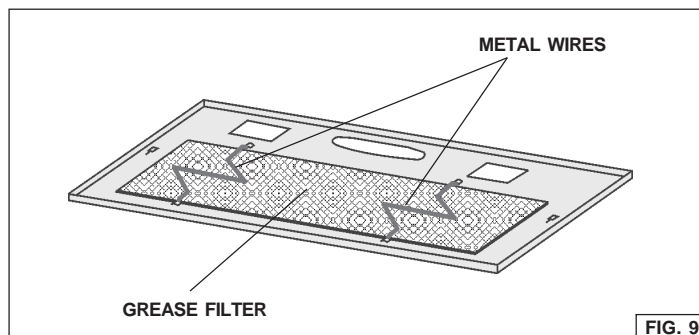

FIG. 9
1. Remove the metal wires (Fig. 9) and discard them.
To remove the grease filter: remove the grid by moving the 2 slide fasteners "A" (Fig. 2); remove the metal wires and then the grease filter (Fig. 9).